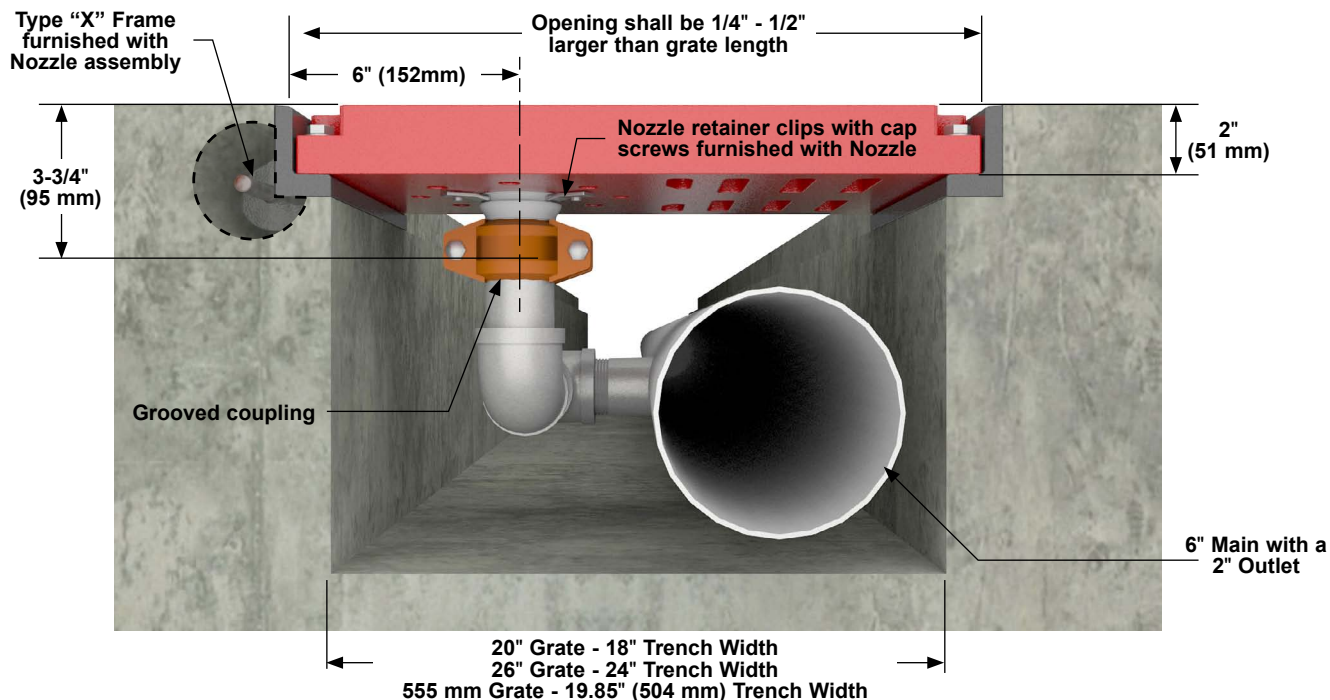

Figure 8.1.1: Installation Cross Section
- E. Installation of the Grate Nozzle assembly and standard drain trench grates require that adequate drain trench sizing has been accounted for. (see Figure 8.1.1) Trench drain size should be defined by the architect or project engineer at an early stage and prior to installation.
- G. Supply piping must be located in the trench. A 2" supply pipe should be piped horizontally from the supply main located in the trench, and then vertically to the Grate Nozzle. The 2" supply must terminate in a grooved connection to allow for installation to the Grate Nozzle. (see Figure 8.1.1)